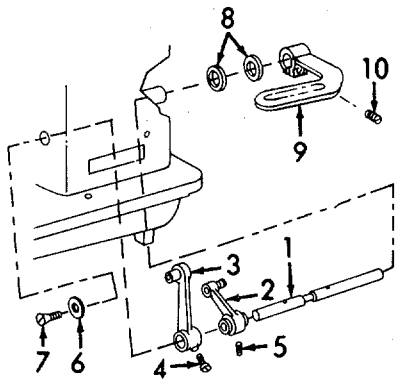

Figure 6-78. Reversing Control Shaft, Installation.
- (6) Refer to Figure 6-78. While sliding the shaft (1) into the arm, slide the reversing feed control arm (2) and the reversing feed control crank (3) onto the shaft. Be sure the fork arm is on the front of the shaft and the connecting rod arm is on the rear of the shaft.
- (7) Install the setscrews (4 and 5). Be sure that the setscrews point seat into the drilled holes in the shaft. This ensures proper arm and crank positioning.
- (8) Install two washers (6) hollow side in and screw (7).
- (9) Install two bevel washers (8) hollow side in.
- (10) Install the lever (9) with the handle in the full up position and then tighten the setscrew (10).